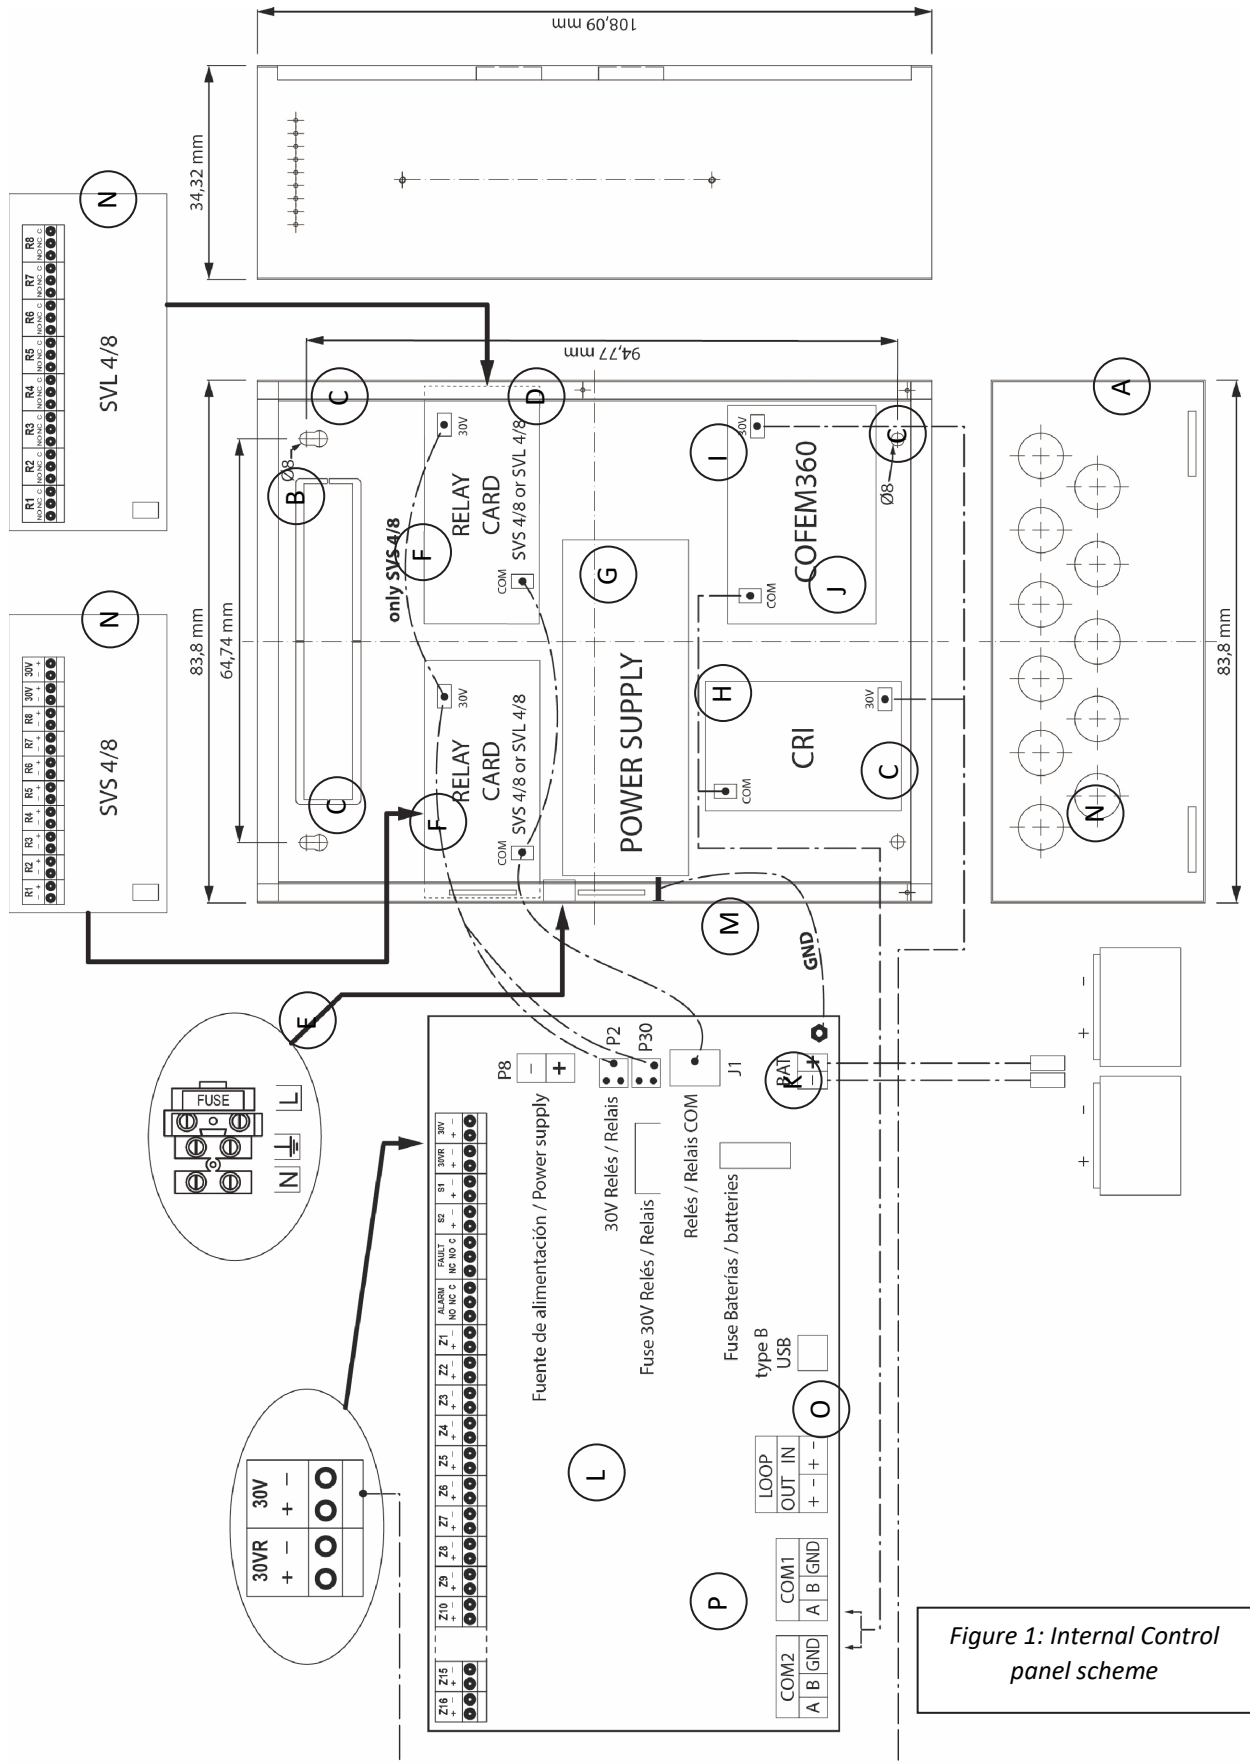

Figure 1: Internal Control panel scheme
The Silver control panel is made up of a metal box with a plastic front door fixed with two tabs at the top and two screws in the lower corners. It has 13 pre-drilled holes ($\varnothing 28\text{mm}$) at the top (A) [figure 1] for wiring, as well as a rectangular 200 X 40 mm one at the top bottom of the box (B). It is screwed to the vertical wall with 4 screws ($\varnothing 8\text{mm}$) located at its corners (C). The cover plate is located in the central front area held by a screw in the right-hand side profile (D) and rotates on the left profile, opening like a door allowing access to the inside of the box.
This space allows a maximum of 2 cards, with card number 1 placed on the left and card number 2 on the right. The relays are numbered from left to right inside the control panel, starting with those on card 1 and continuing with those on card 2. The cards will be connected to the CPU according to the diagram in [figure 1]. The SVL cards connect from the CPU connector J1 to the SVL COM. The SVS cards have two connection lines, the first line from the CPU connector J1 to the SVS COM and the second line from the CPU connector P2 or P30 to the SVS 30V connector. This second line only supplies power to the output of the supervised relays on the SVS cards. The SVS cards can be powered by an external power supply independent of the control panel itself.
Drill the necessary holes to attach the control unit to the wall. To do this, take into account the holes (C) [figure 1] located in the corners of the box.
For safety reasons, the power supply cable must be as short as possible inside the control panel. The power supply cable should then enter the control panel through the upper left hole (N) [figure 1] with the minimum length inside to allow a good connection.
The card must be placed in the space (F) [figure 1] of the box. This space admits a maximum of 2 cards, with the card number 1 placed on the left and the card number 2 on the right. The cards must be properly identified by their microswitches (N):
The card must be placed in the space (H) [figure 1] of the case. Each card has 4 holes in the corners that match the 4 pins on the case intended for this card.
The card must be placed in the space (I) [figure 1] of the case. Each card has 4 holes in the corners that match the 4 pins on the case intended for this card.